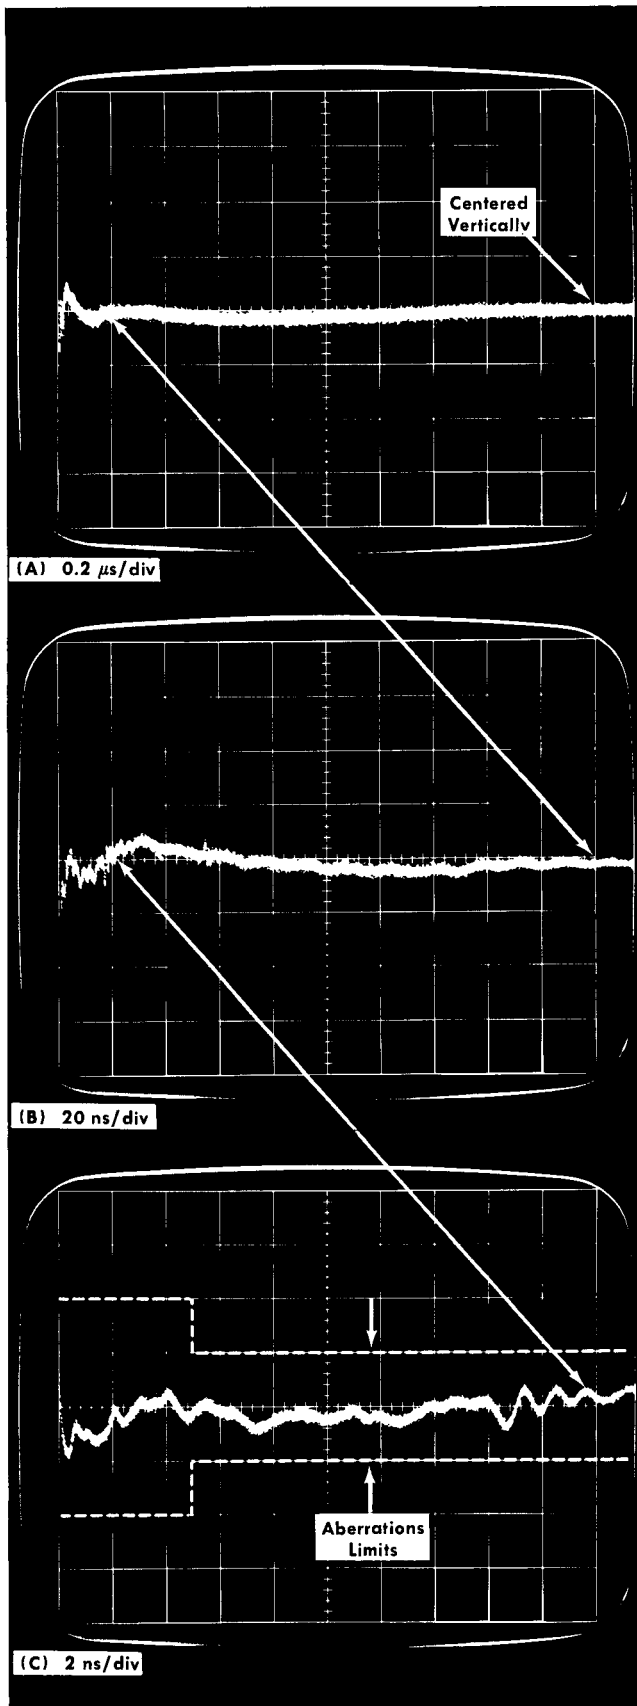

Fig. 8-15. Check of transient response. Step 9.
d. Change the sweep rate to 20 ns/div and horizontally time position the display (with the Time Position control) as in Fig. 8-15B. Vertically position the right end of the trace to the graticule reference as was noted one division in from the left edge at 0.2  $\mu$ s/div. Fig. 8-15 arrows show the vertical alignment points. Check that the total display lies within  $\pm 1$  major division of the graticule centerline.